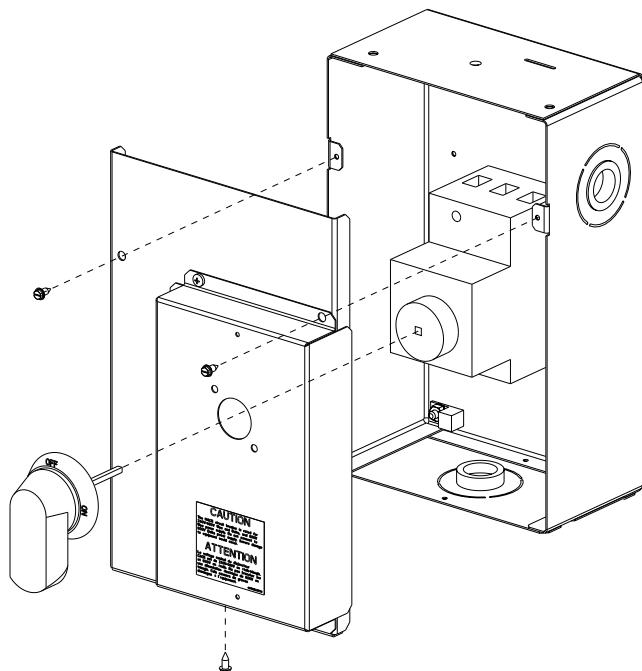

Fig. 34 — Handle and Shaft Assembly for HACR Circuit Breaker
2. Remove (3) hex screws on the HACR circuit breaker enclosure - (2) on the face of the cover and (1) on bottom (see Fig. 34).
9. Secure the handle to the painted cover with (2) screws and lock washers supplied.
10. Engaging the shaft into the handle socket, reinstall (3) hex screws on the HACR circuit breaker enclosure.